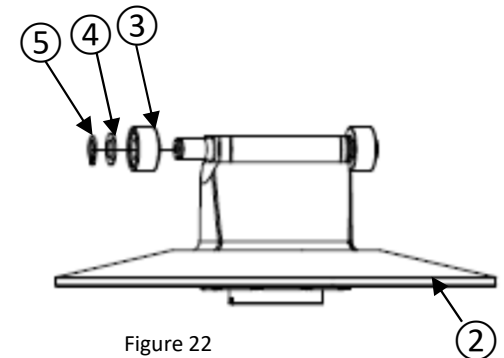

Figure 22
- Remove the 2 washers (4) and the 2 rollers (3) from the sliding sheave (2) (figure 22).